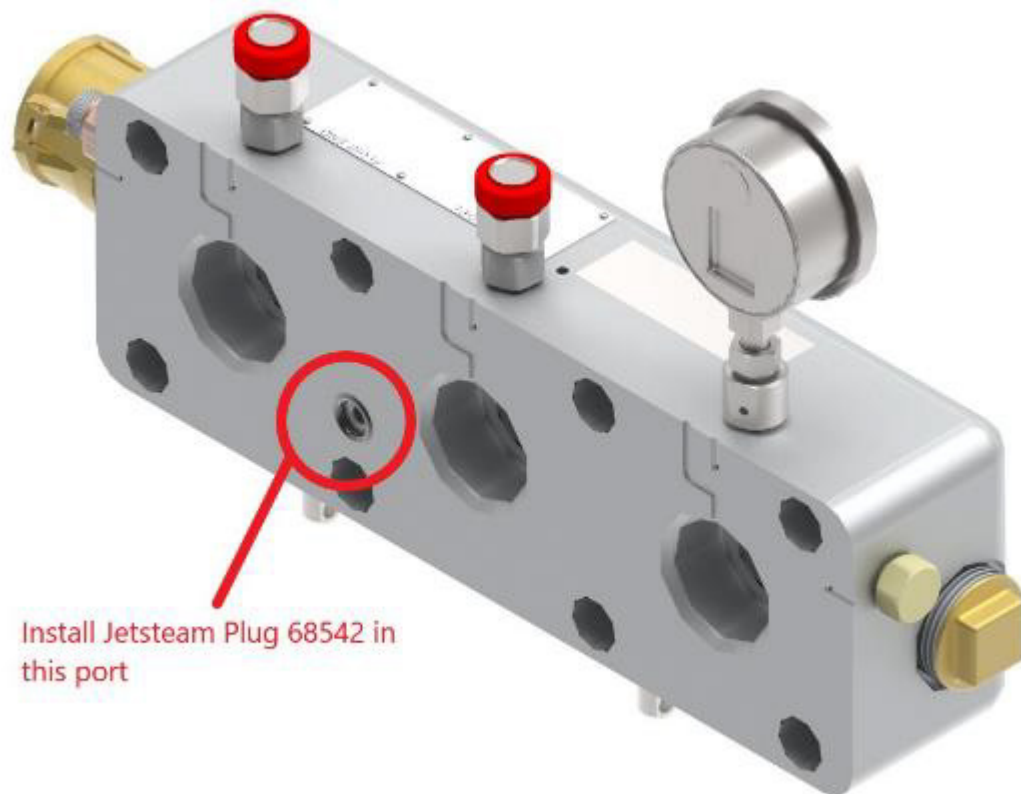

Figure 4: Install Plug in 5200 Series Manifold
- d. Install plug in 5200 water lube manifold port located on the valve side of the manifold, without o-ring (Figure 4).